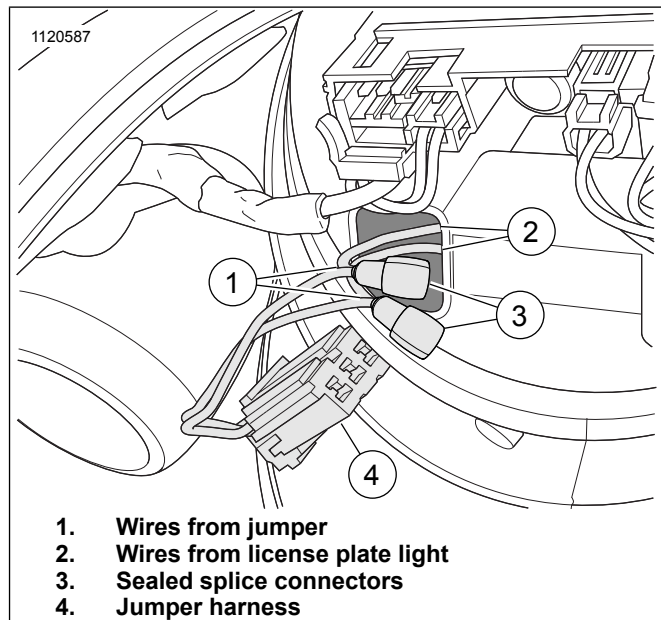

Figure 4. Splicing Wires
10. See Figure 4. Splice jumper harness.
- a. Pull license plate light wires (2) through brake light.
- b. Position jumper harness (4) with wires (1) extended.